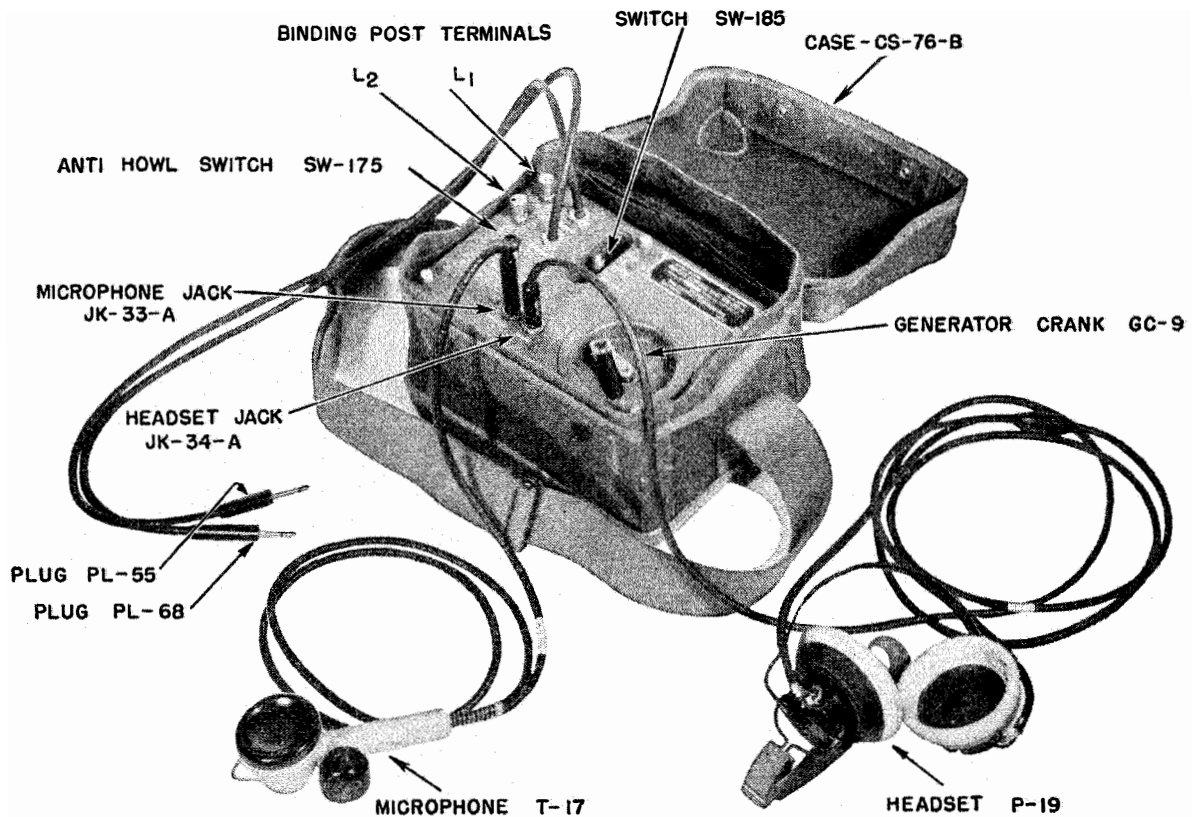

FIG. 5. REMOTE CONTROL RM-29-(*)
i. *Remote Control Unit RM-29-(*)*:— (FIG. 5)